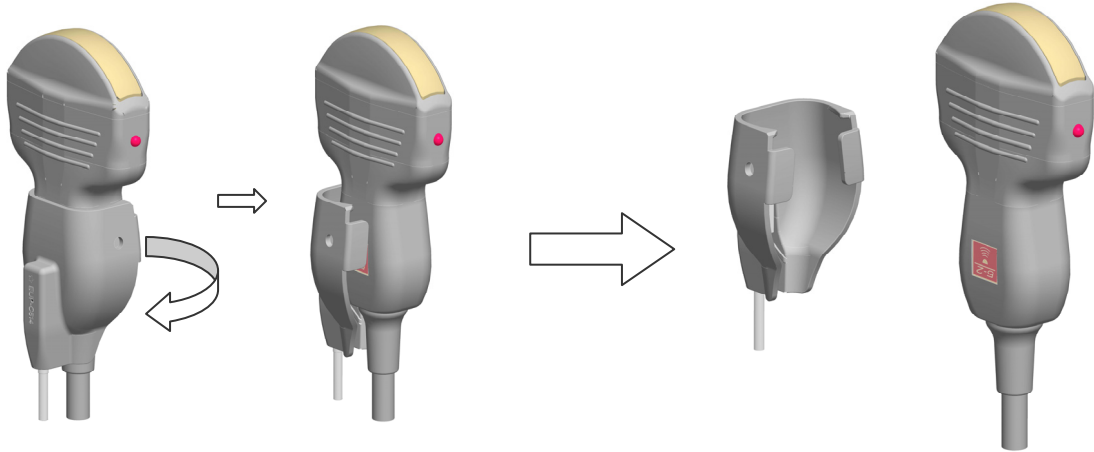

Fig. 6 How to release the Magnetic sensor attachment
- a) Turn around the magnetic sensor attachment and release it from the probe as shown in Fig. 6.